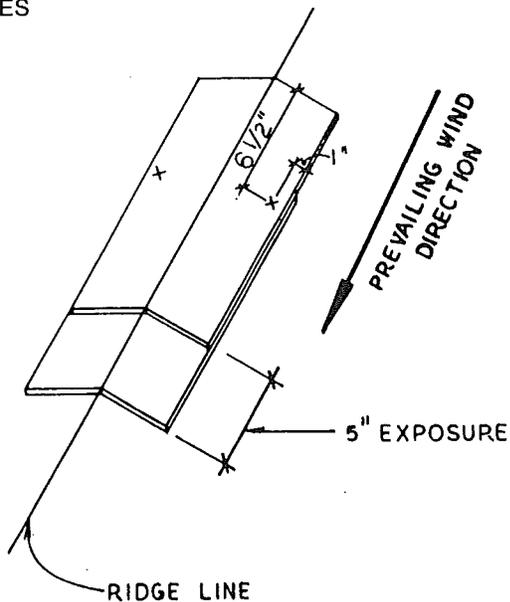

FIG. 5-25
9. Cut shingles for ridge cap and install as shown in Figures 5-25 and 5-24.
NOTE: TO PREVENT WIND LIFTING AND POSSIBLE LEAKAGE, THE RIDGE CAP SHINGLES SHOULD BE ORIENTED WITH RESPECT TO PREVAILING WINDS AS INDICATED IN FIG. 5-25.